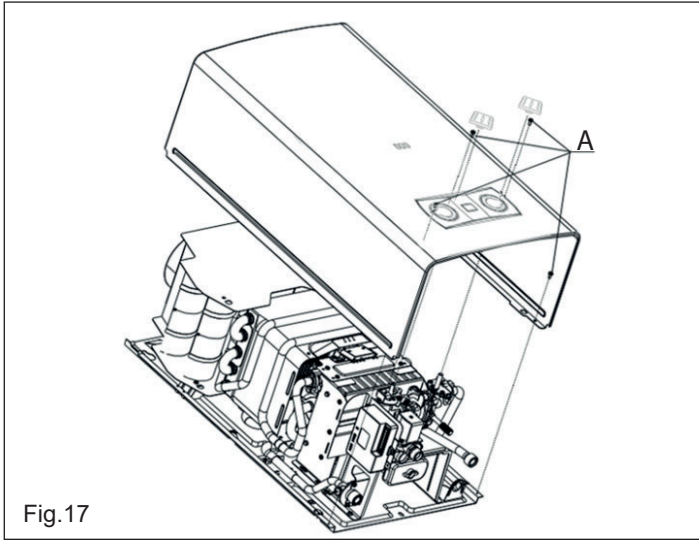

Fig.17
- remove the control panel knobs (fig. 17),
- unscrew the 4 fixing screws (A),
4. Unscrew the 4 screws located on the side of the bracket holding the burner (D).
7. Carry out the replacement slowly, making sure not to damage any of the seals and to position them correctly. We recommend replacing them with new gaskets (E).
- Remove the casing (fig. 17) to access to the pressure regulator